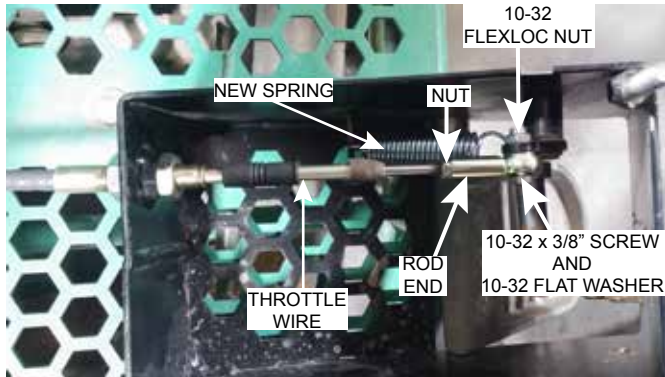

Figure 22. Foot Riser Connections
14. Install the rod end, screw, washer, and nuts where the throttle standoff used to be on the foot pedal linkage as shown in Figure 22.